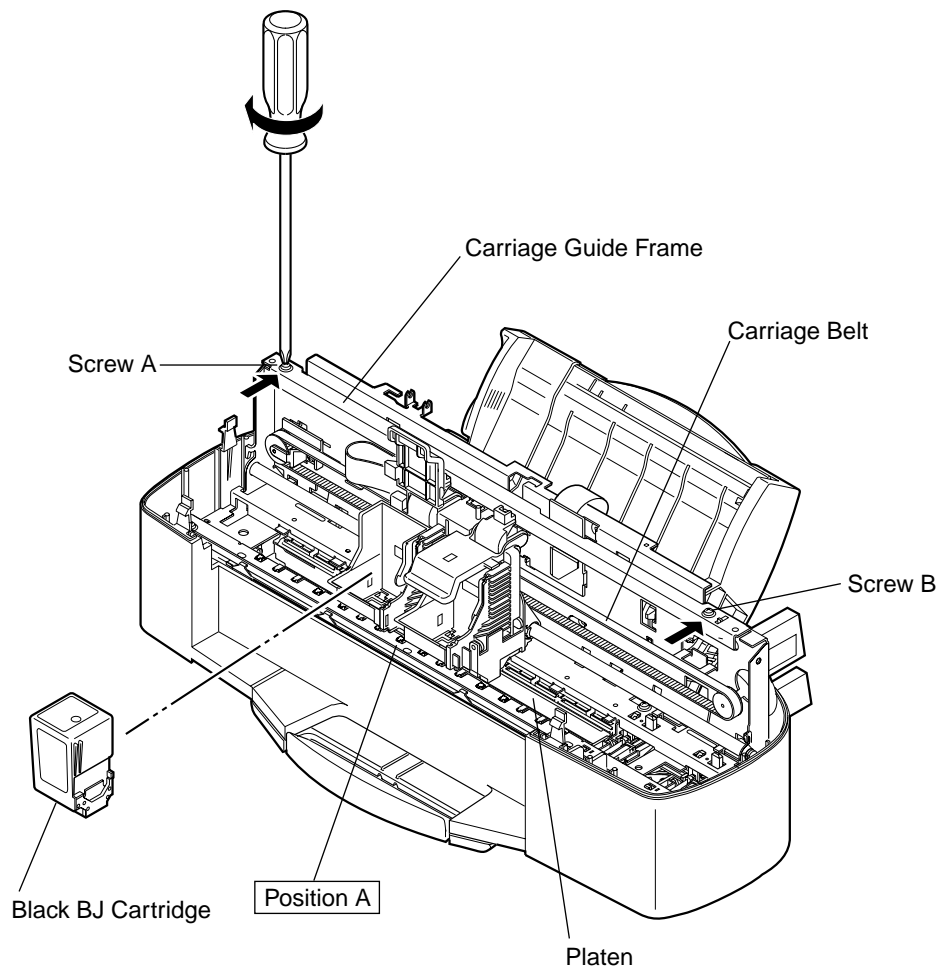

Figure 5-7 Adjustment Preparation
- 4) Push in the carriage guide frame as indicated by arrows in Figure 5-7 and lightly fix the frame with screws A and B.